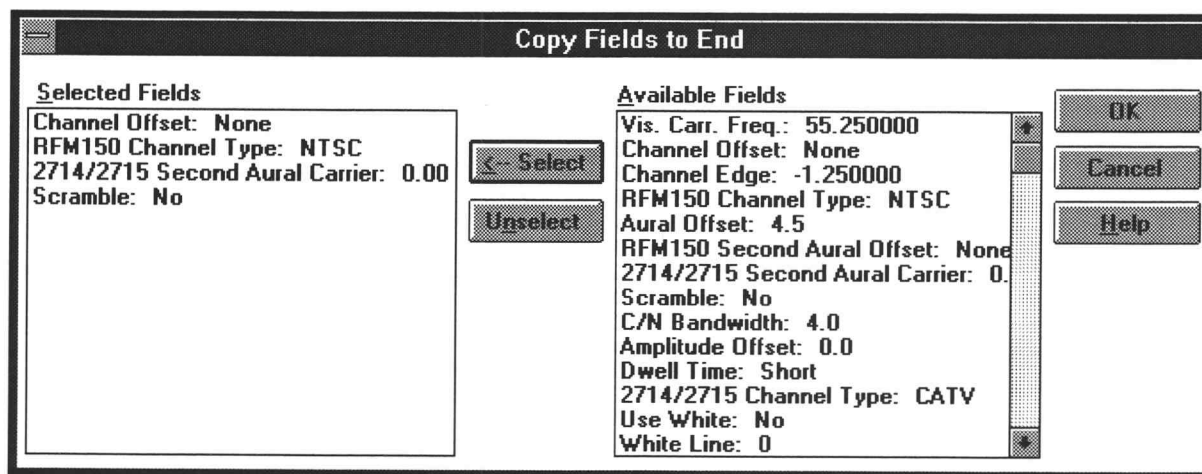

Figure C-9. The Copy Fields to End dialog box.
10. If any fields are the same for all channels, choose the Copy Fields command button from the Button Bar. Figure C-9 shows the resulting dialog box.